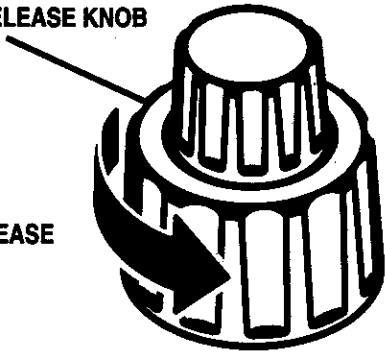

Fig. 15
See Figures 15, 16, and 17.
- The tension adjusting knob is on the top of the saw. Rotate the quick release knob (outer, larger knob) 1/4 turn to the left or counterclockwise to release blade tension. See Figure 15.